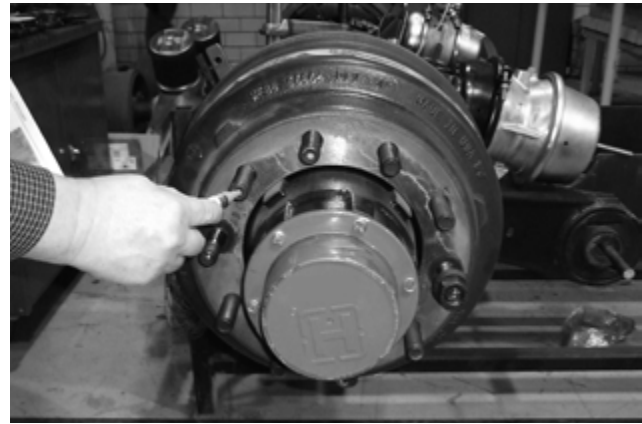

Figure 1: Identifying "old" studs
4. Using a paint stick or some other suitable marker, **mark studs to be replaced** so they do not get mixed up with new replacement studs (Figure 1).